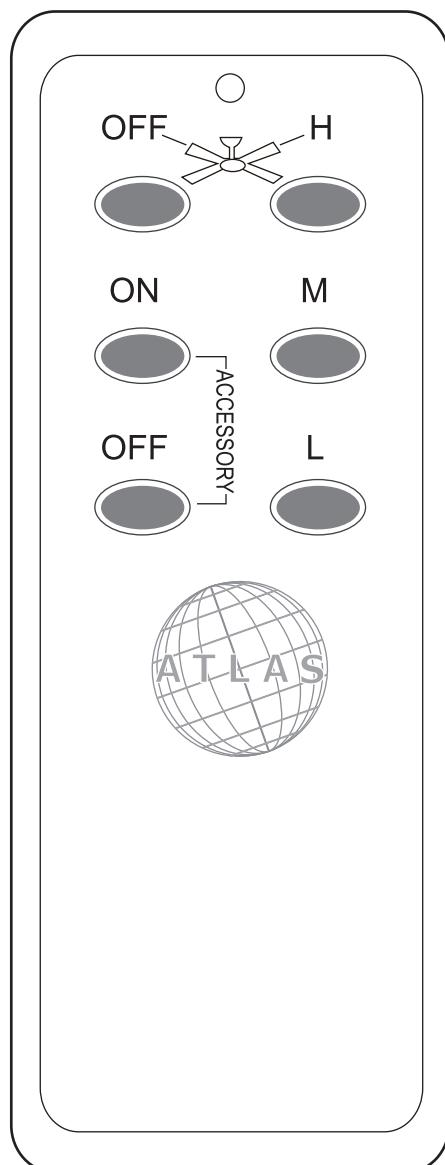

Figure 6
A. **H, M, L** and **OFF** button: (Fig. 6)